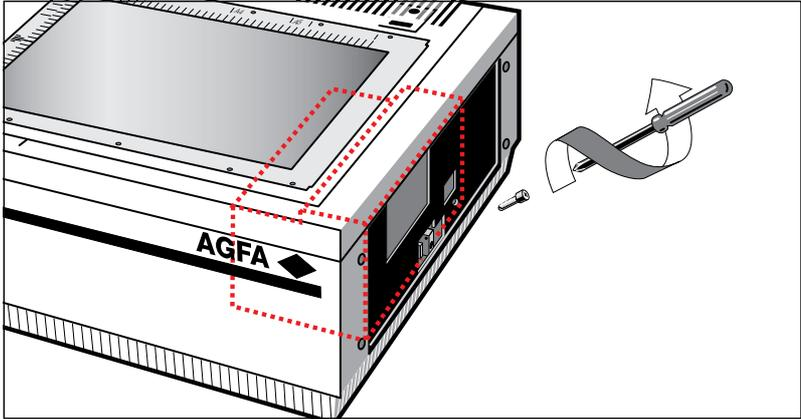
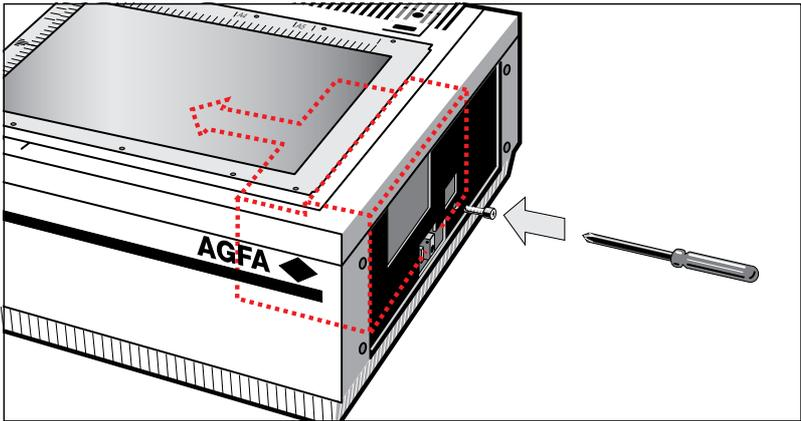

Figure 1-3
Figure 1-4
3. Loosen the screw (left), as shown in Figure 1-3, and place it in the holder next to it (Figure 1-4).